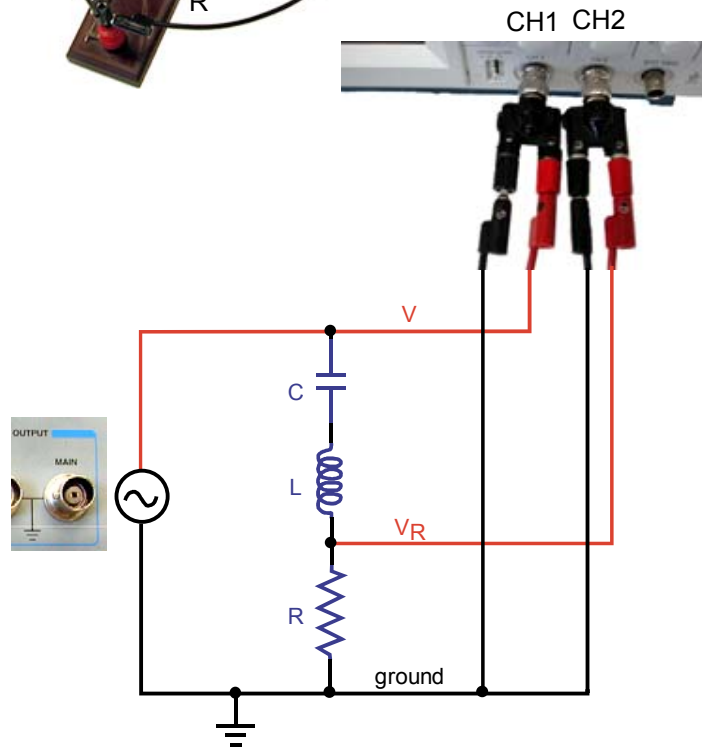

Fig. 11-9. Configuration for procedure B2.
- (2) Connect the function generator, oscilloscope, and components as shown in Figure 11-9. Note that part (a) of this figure shows an incomplete setup, whereas (b) is a complete setup. You must connect the oscilloscope inputs as shown in (b). Use an $R = 10\text{ k}\Omega$ resistor.